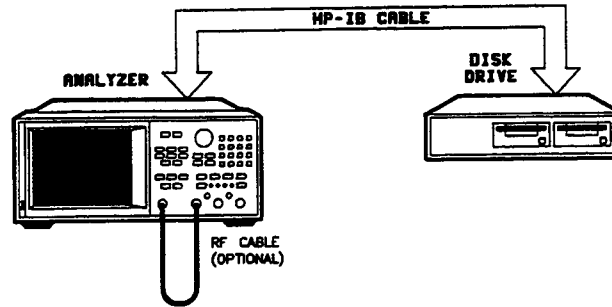

Figure 30. EEPROM Backup Procedure Setup
1. Connect the instruments as shown in Figure 30 and turn them on. Make sure the drive is set to HP-IB address 00. Then press [LOCAL] [SYSTEM CONTROLLER].
1. Connect the instruments as shown in Figure 30. Make sure the drive is set to HP-IB address 00.